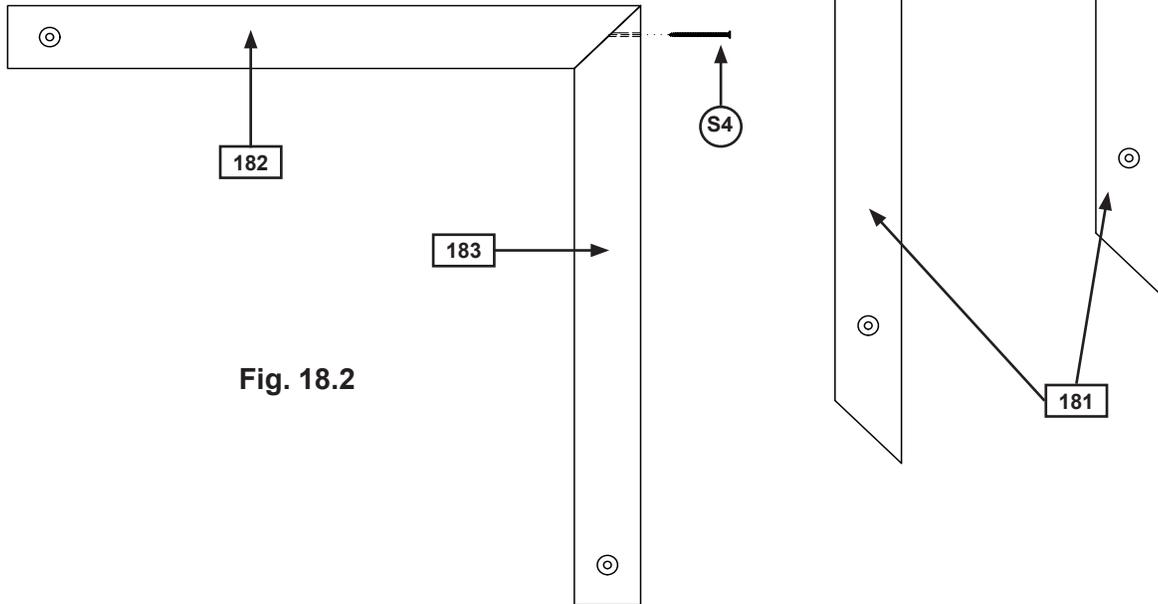

Fig. 18.2
C: Attach (182) L Roof Support to (183) R Roof Support at peak using 1 (S4) #8 x 3" Wood Screw. Notice that (182) & (183) are the shorter of the support boards. (fig. 18.2)